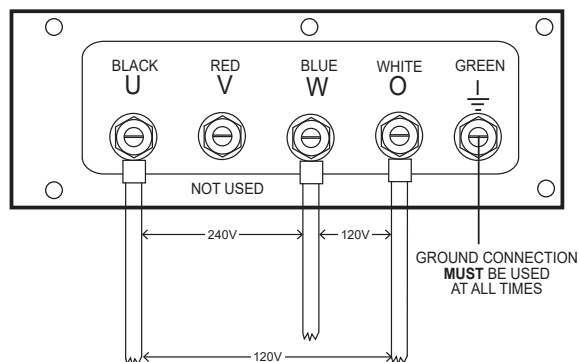

Figure 32. UVWO Terminal Lugs 1Ø-240/120V Connections
2. Connect the load wires to the UVWO terminals as shown in Figure 32.